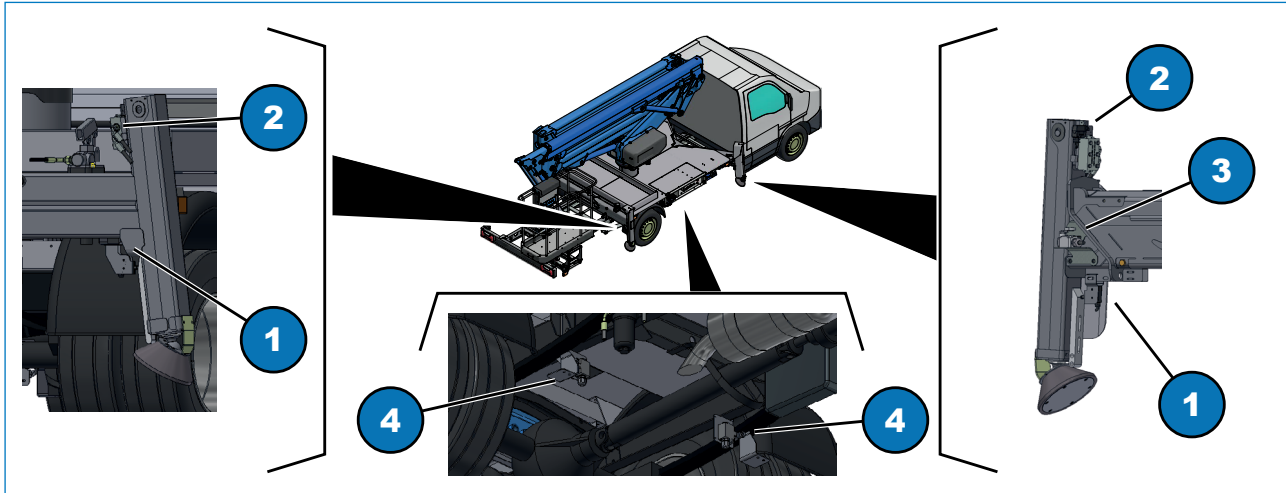

Fig. 5.7
The stabilisation control device consists of two micro switches (Fig. 5.7, 1) and (Fig. 5.7, 2), found on each stabiliser; a micro-switch (Fig. 5.7, 3) found on the side of the front stabiliser beams; and a micro-switch (Fig. 5.7, 4) found on the vehicle's rear springs.
Micro-switch (Fig. 5.7, 1) indicates the complete closure of the plate for moving on the street; micro-switch (Fig. 5.7, 2) controls resting on the ground; micro-switch (Fig. 5.7, 3) controls the complete extension of the stabiliser; and micro-switch (Fig. 5.7, 4) indicates minimum stabilisation.
- When the stabilisers are properly extended, the four LEDs, 1, 2, 3 and 4 next to the stabilisation controls (see Fig. 4.4) are illuminated, indicating that the micro switches are working correctly (Fig. 5.7, 2) and (Fig. 5.7, 4);
- retract all the stabilisers and check that the LED in the cab (see Fig. 4.3, 4) is illuminated, indicating that the micro switches are operating correctly (Fig. 5.7, 1).